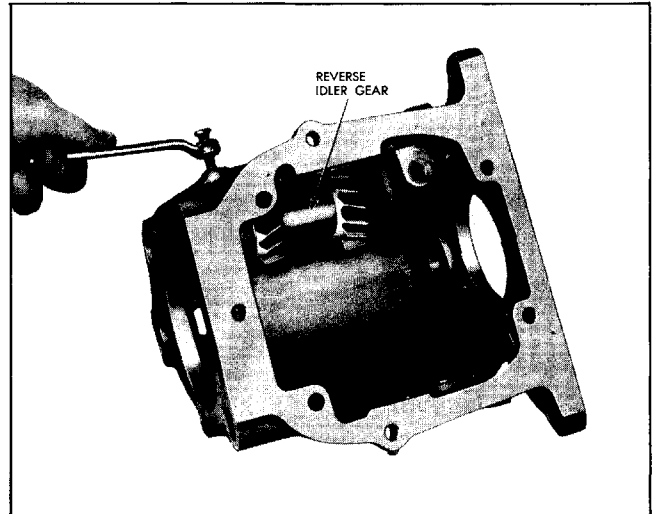

Fig. 7-25 Removing or Replacing Reverse Idler Shaft Lock Screw
12. Remove reverse idler gear shaft lock screw (Fig. 7-25), then remove idler gear shaft toward rear of case, and lift reverse idler gear and thrust washers from case.